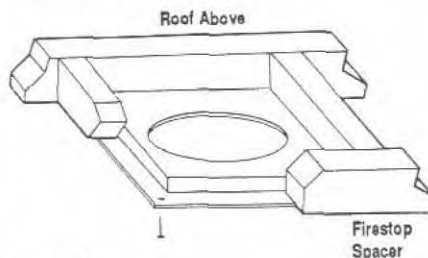

Figure 23
**Step 3.** Position appropriate firestop spacer at ceiling and nail temporarily with two (2) 8d nails. Use flat firestop spacer, Model 8FS\* for TF8 system and Model 10FS\* for the TF10 system, if chimney penetrates ceiling vertically. If chimney penetrates ceiling at 30° angle (offset chimney), use 30° firestop spacer, Model 8FS30\* for TF8 and Model 10FS30\* for TF10 system. Use one nail on opposite sides to hold firestop spacer in position. Nail permanently, using at least two (2) more 8d nails, after chimney sections have been assembled through the firestop spacer and after any necessary adjustments have been made. Firestop spacer must be secured by at least four (4) 8d nails when completely installed.
**Note:** If there is a room above ceiling level, firestop spacer must be installed on the bottom side of the ceiling. If an attic is above ceiling level, firestop spacer must be installed on top side of ceiling joist (Figures 23 and 24).